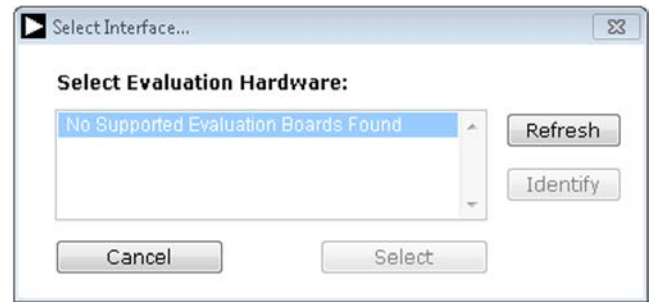

Figure 16. Connectivity Error Alert
2. If the **AD7768-1** evaluation system is not connected to the USB port via the **EV-AL-SDP-CH1Z** when the software is launched, a connectivity error displays (see Figure 16). Connect the evaluation board to the USB port of the PC, wait a few seconds, click **Refresh**, and then follow the on screen instructions.